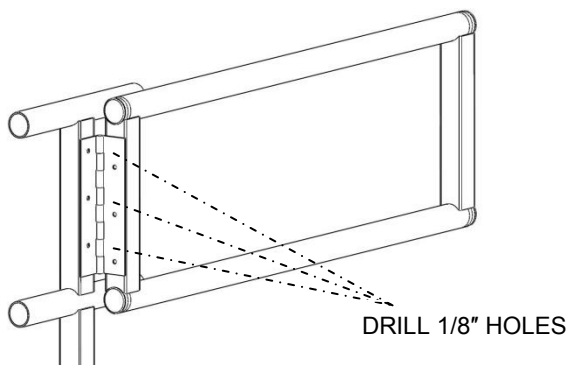
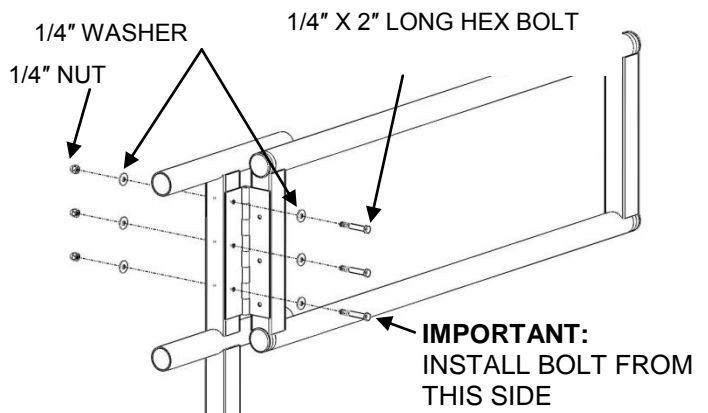

FIG. 6.28
FIG 6.29
- 6.10.2. Position the gate hinge against the vertical handrail post. Position the hinge vertically so the top of the gate is even with the top of the handrail and so that the edge of the hinge is flush with the edge of the vertical handrail post. Mark holes with pencil using the holes in the hinge as a template then drill three 5/16" holes through both sides of the vertical handrail tube (FIG. 6.28). Install fasteners through hinge and vertical handrail tube and secure as shown (FIG. 6.29).